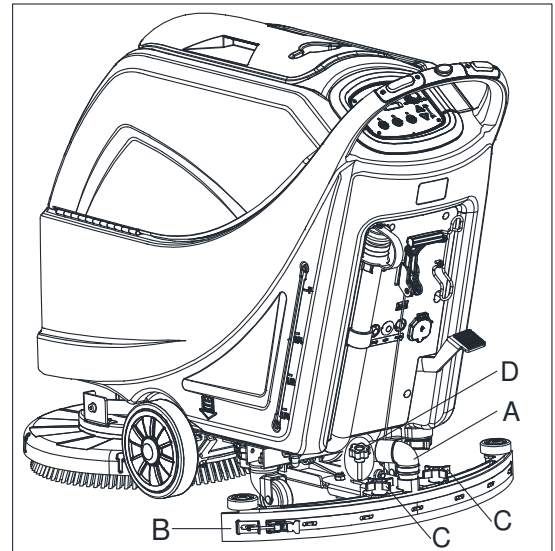
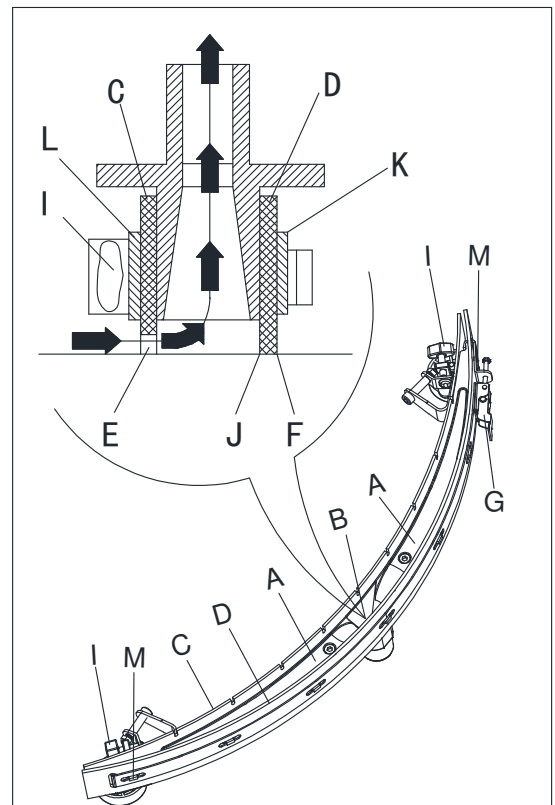

Figure 19
Figure 20
2. Check that the edges (E, Figure 20) of the front blade (C) and the edges (F) of the rear blade (D) lay down on the same level, along their length; if necessary adjust their height according to the following procedure:
- Remove the tie rod (G), disengage the fasteners (M) and adjust the rear blade (D), then engage the fasteners (M) and install the tie rod (G).
- Loosen the knobs (I) and adjust the front blade (C), then tighten the knobs.
3. Check the front blade (C) and rear blade (D) for wear, cuts and tears; if necessary replace them according to the following procedure. Check that the front corner (J) of the rear blade (D) is not worn; if necessary, overturn the blade to replace the worn corner with an integral one. If the other corners are worn too, replace the blade according to the following procedure:
- Remove the tie rod (G), disengage the fasteners (M) and remove the retaining strip (K), then replace/overturn the rear blade (D). Assemble the blade in the reverse order of disassembly.
- Unscrew the knobs (I) and remove the retaining strip (L), then replace the front blade (C). Assemble the blade in the reverse order of disassembly. After the blade replacement (or overturning), adjust the height as shown in the previous step.
4. Connect the vacuum hose (A, Figure 19) to the squeegee.
5. Install the squeegee (B) and screw down the knobs (C).
6. If necessary, adjust the squeegee balance adjusting knob (D).